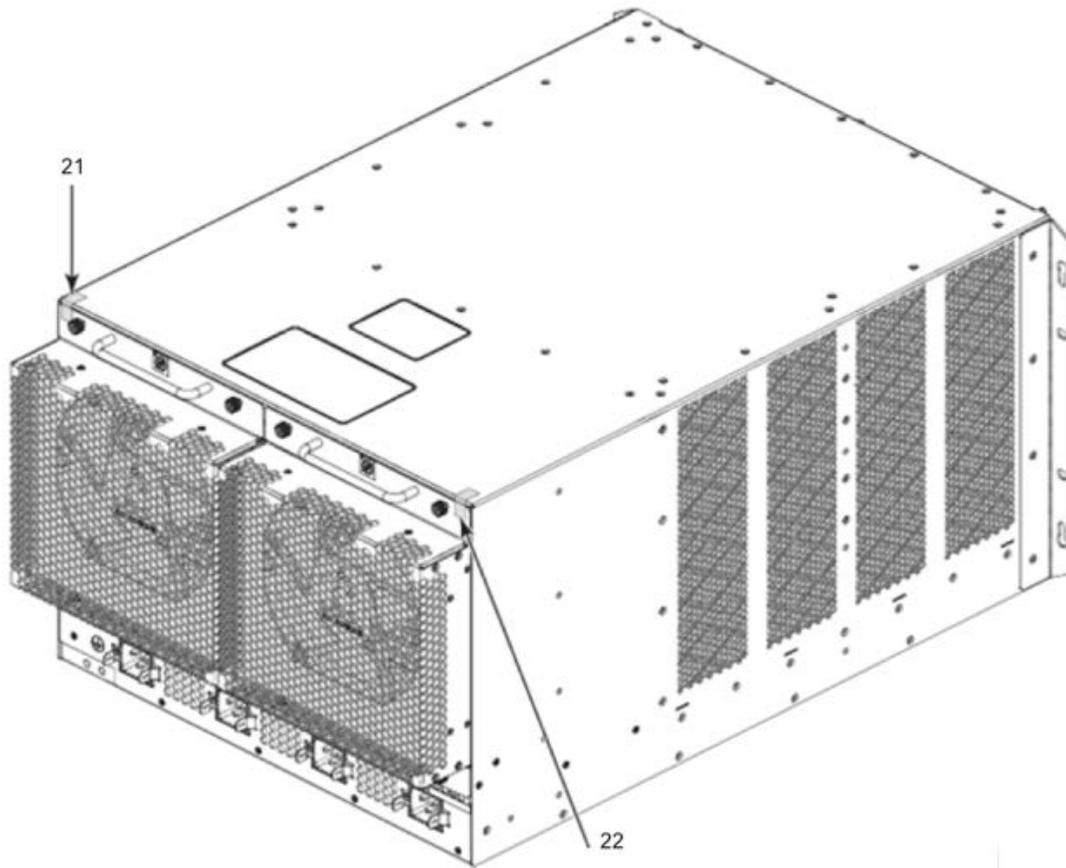

Figure 21 - Rear view of Brocade MLXe-8 device with security seals
- Rear: Two (2) seals are required to complete the physical security requirements. Affix one (1) seal at each designated location. Each seal is applied from the top panel of the chassis to the flange of each of the two fan FRUs. You must bend each seal to place them correctly. See Figure 21 for correct seal orientation and positioning.